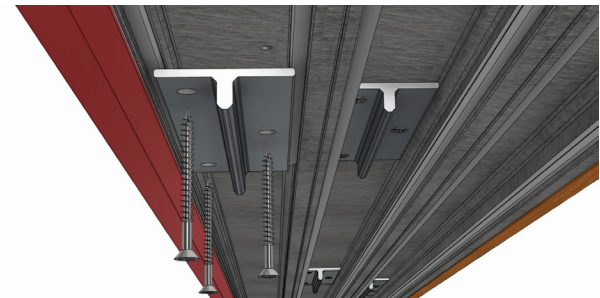

Fig 51
- Apply one Structural Brace per hole pattern using the #12 x 2 1/2" screws. See Fig. 51